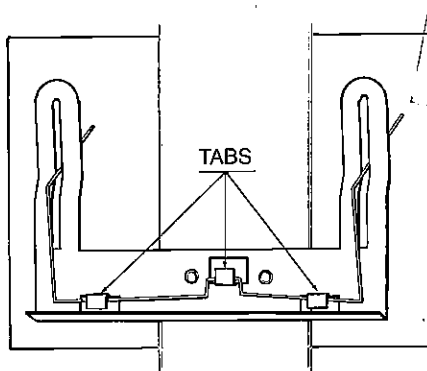

FIGURE 35
6. Refer to Figure 35 to be sure the new stylus is positioned correctly under the tabs on the holder. Be sure it moves freely in the two slots. If not, bend the stylus away from the edge it is rubbing on until it does move freely.